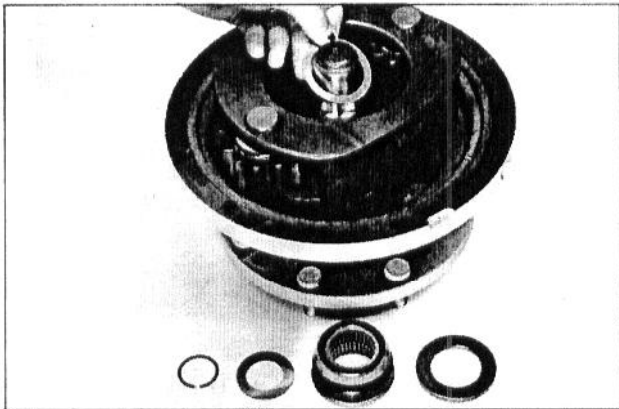

Fig. 101 - Pre-Load Shim Installation
9. Install several shims (about .040" total). This is necessary to provide a clearance when using Special Tool MFN 267Y for determining planetary bearing pre-load. Refer to Fig. 101.